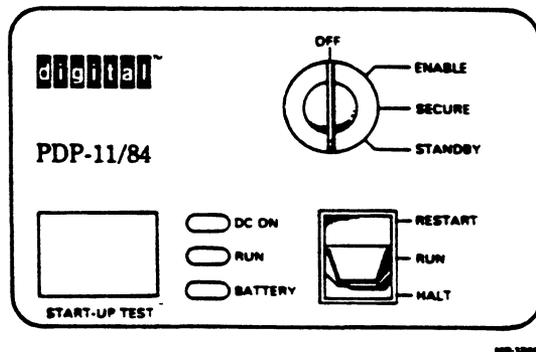

FIGURE 2-11 FRONT PANEL CONTROLS AND INDICATORS
6. Set the front panel keylock switch to OFF. (See Figure 2-11.)
The front panel consists of a keylock power switch, RESTART/RUN/ HALT Switch, a Start-up Test LED display, and POWER and RUN indicators. Figure 2-11 shows the front panel controls and indicators.